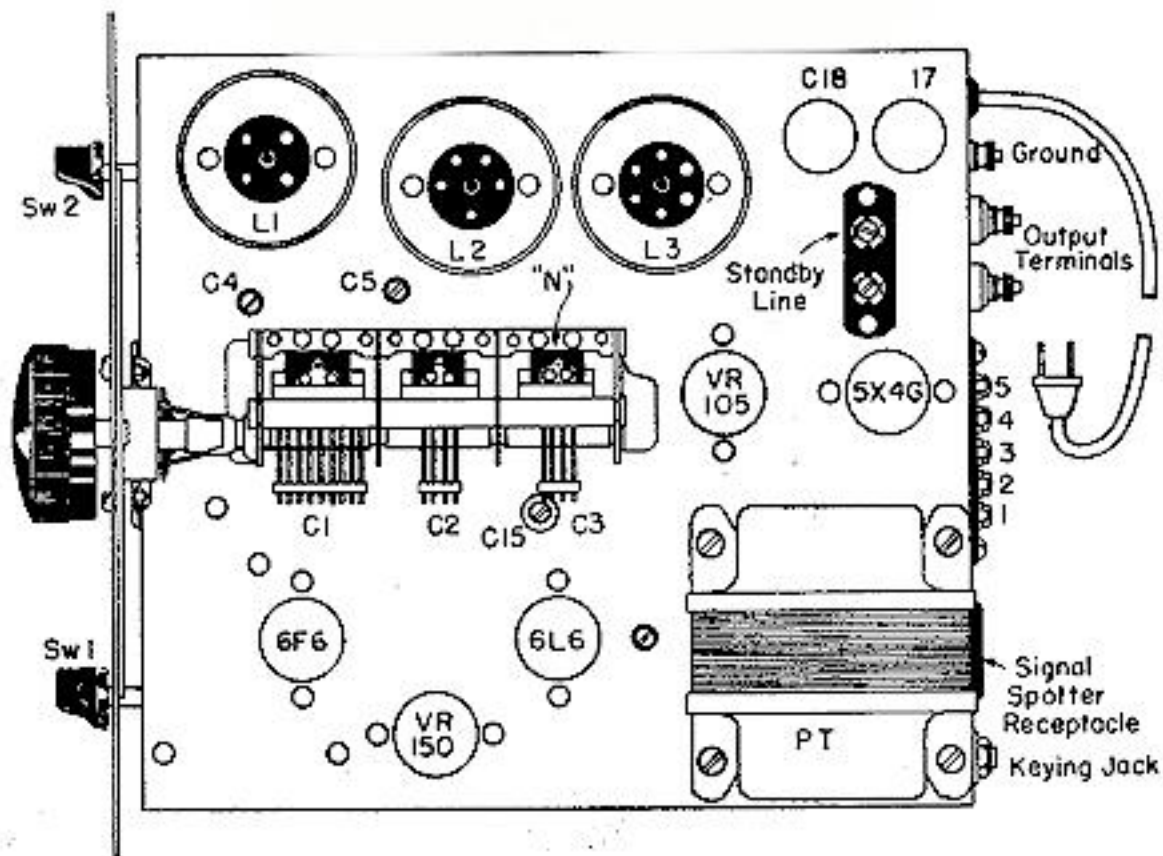

Figure 7 — DeLUXE MODEL (NEW) — TOP VIEW
C. DELUXE MODEL (NEW): Assuming the Signal Shifter has been allowed to warm-up for 30 minutes, the actual process of dial calibration can begin. First, **REMOVE** panel screws "A" and "B" and **LOOSEN** panel screws "C" and "D." These screws are clearly shown in Figure 7. Now remove the transparent sheet of "plastacelle" which covers and protects the scale. Removal is accomplished by pulling the sheet upward and out from its position between the scale and front panel. When the transparent sheet is removed, replace panel screws "A" and "B" and tighten all four screws (A-B-C-D) firmly in place. In tightening these screws, make certain the dial scale is
Second, tune the SIGNAL SHIFTER to ZERO BEAT with the 14,000 kc setting of the receiver. If the adjustments made in both the receiver and SIGNAL SHIFTER were carefully made, the Signal Shifter pointer indicates "14,000 KC" and this point may now be marked on the dial scale. Ordinary black fountain pen ink or pencil may be used to mark the scale. Extreme care should be used in marking the scale. If a line is drawn to mark a point, the line should follow the angle of the pointer line. See Figure 7, NOTE: If the scale is slightly "oily," it will not "take" ink readily. For this reason, the points where the marker lines are placed should be cleaned with ordinary "art gum," obtainable at any stationery store. Use care in cleaning with art gum and do not rub over the printed scale markings. CLEAN ONLY THE CLEAR SPACES WHERE PERSONAL MARKS ARE TO BE MADE. If an error is made in marking, erase with an ordinary pencil eraser. DO NOT RUB OVER THE PRINTED SCALE LINES.